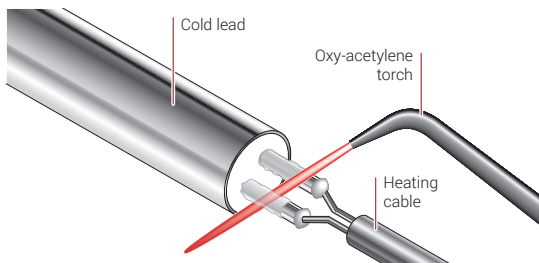

Figure 28: Braze hot/cold joint conductors
**Note:** Bend the two conductors of the MI heating cable into a 'Y' shape so that the ends are the same distance apart as the cold lead conductors (see Figure 28).
Hot/cold joint: Align the two cables so that the conductor tips butt together and heat the larger (cold lead) conductors, one at a time, so that the braze on the tip melts, then push the smaller (heating cable) conductors into the braze (Figure 28). Do not add any more braze. Remove the heat and hold for two seconds until the braze hardens. Care should be taken not to overheat the conductors during this process. Pull lightly to test for strength.